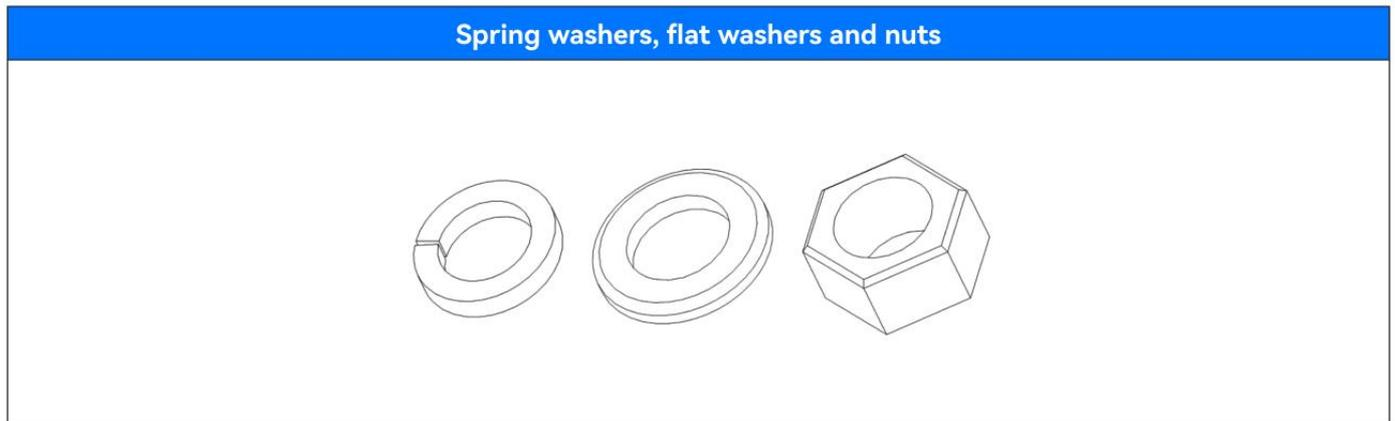

Figure 3.1
1. Remove the four sets of installation accessories (nuts, spring washers, flat washers), as shown in Figure 3.1. Do not remove the installation studs. Set aside 4 sets of accessories, remember not to lose.